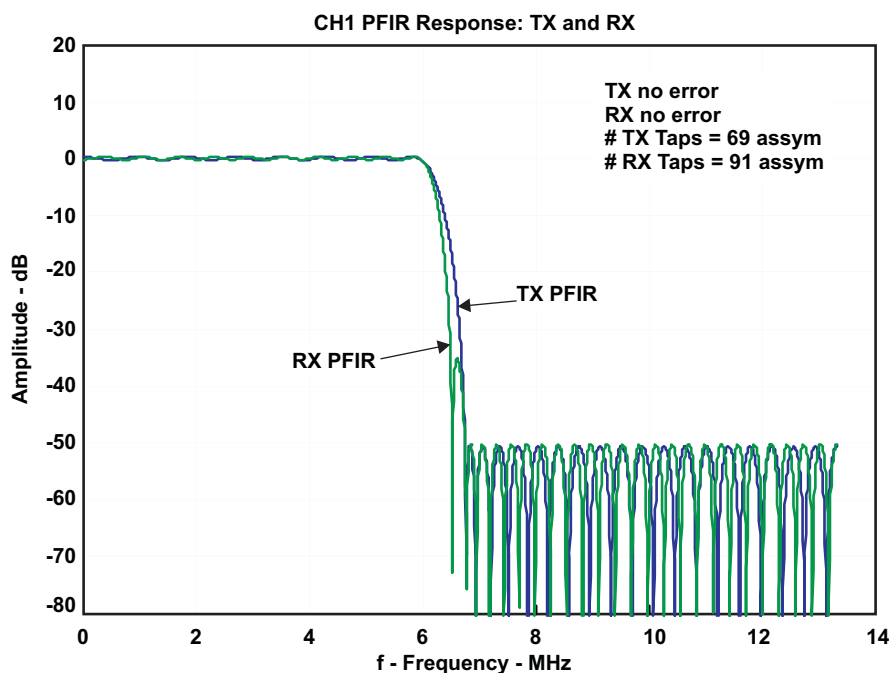

Figure 36. DDC (TX) and DUC (RX) PFIR Responses - Before CIC Correction Convolution
- DDC and DUC separate PFIR spectral responses (Figure 36)
First, look at Figure 36. This plot shows the PFIR spectral response of the DUC (TX) and DDC (RX) *before* convolution with CIC correction taps (using 3 or 5 taps).
The X-axis in Figure 36 has a frequency range from 0 Hz to $F_{PFIR} \div 2$, where F_{PFIR} = Clock $\div$ CIC rate or 160 MHz/6 (13.333 MHz). The Y-axis displays the filter response amplitude relative to the gain at 0 Hz. Image rejection for the DDC decimation and DUC interpolation of $2\times$ requires that each filter response be 50 dB in the stopband $F_{PFIR} \div 2$ – Passband BW (13.333–6 = 7.333 MHz) to $F_{PFIR} \div 2$.
The passband in Figure 36, expands the display by choosing the hourglass (+) icon, click a location on the window, and drag the mouse to define the passband area to magnify.